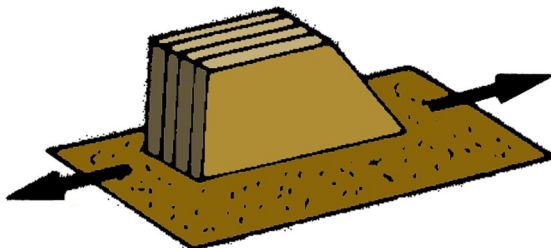

Figure 5
- Step 7** Round over all of the **outer edges** of the fins, except for their root edges. Stack each set of fins together and square up the root edges, as shown in Fig. 5.